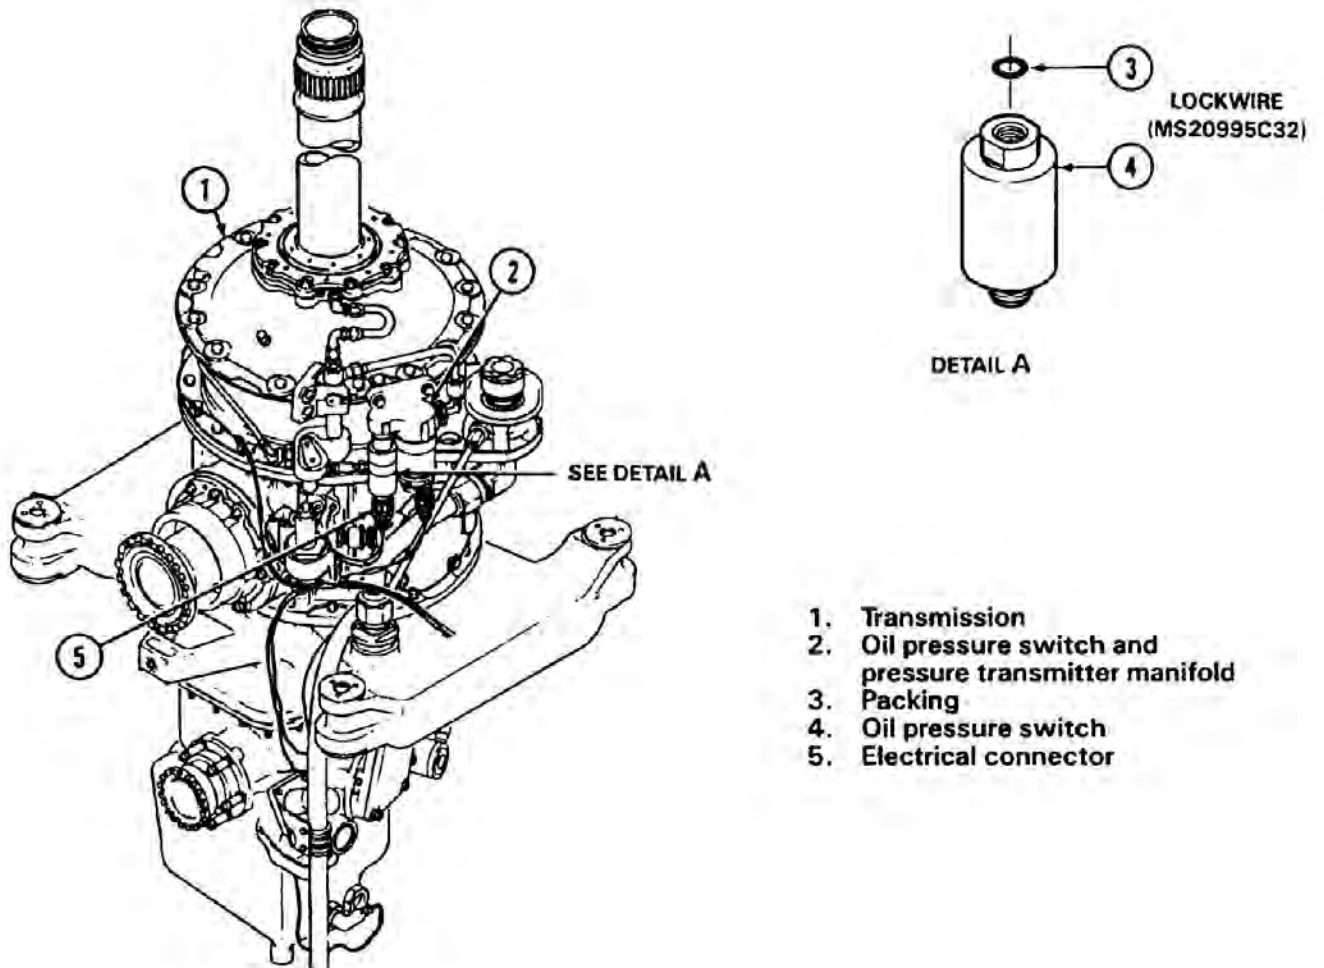

Figure 63-38. Transmission Oil Switch
63.5.21.1.1 Disconnect electrical connector (5, Figure 63-38).
Inspect switch (4, Figure 63-38) and electrical connector for bent pins, damaged threads, dents, or other mechanical damage which would render switch unserviceable.
63.5.21.3.1 Lubricate packing (3, Figure 63-38) with transmission oil (Chapter 12).